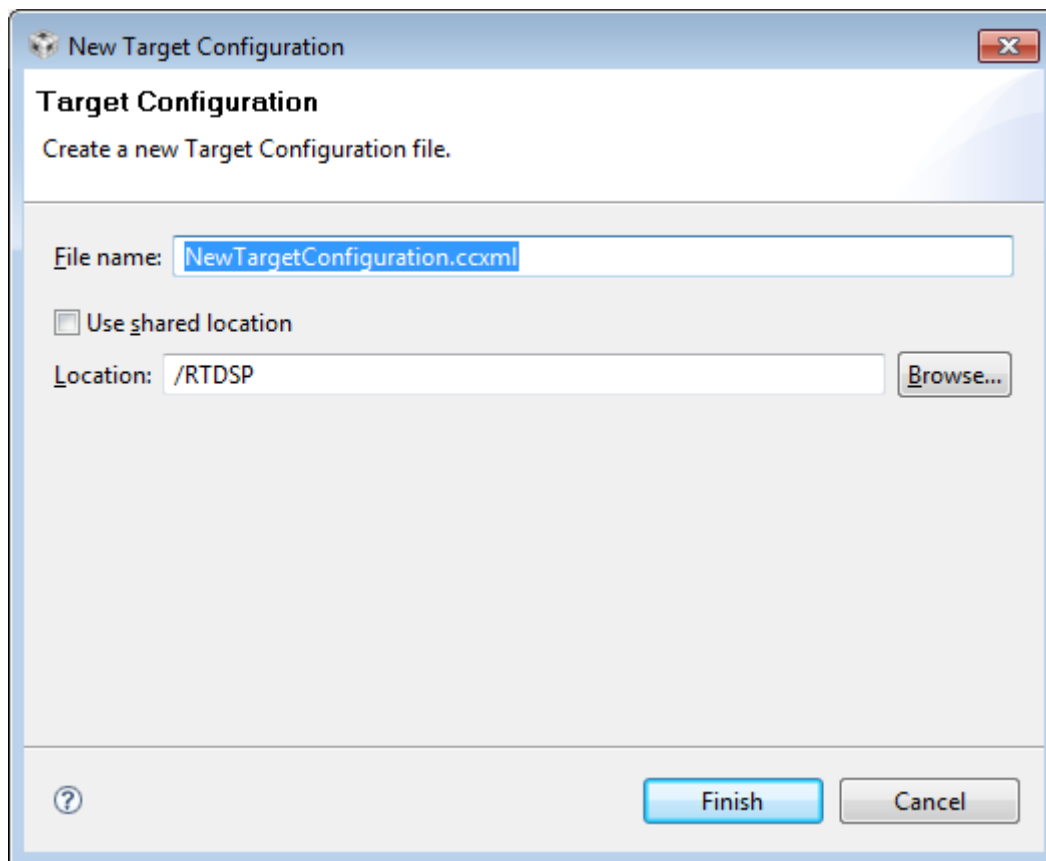

Figure 8: Target Configuration
- Leave the default filename selected and ensure that **Use shared location** is **NOT** selected, set the location to **/RTDSP** see figure 8.